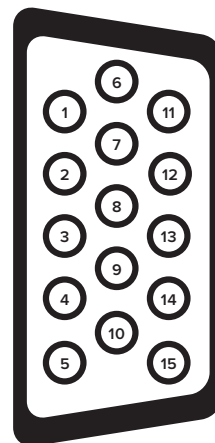

Figure 1: Pin Locations on Instrument
4. Apply power only after reviewing wiring diagrams on Figure 1 and Chapter 2 in the SmartTrak 100 Series Instruction Manual. Power is applied via the HD DB-15 connector. The CAT-5 RJ45 connector is for the Sierra Remote Pilot Module or provided CRN cable.